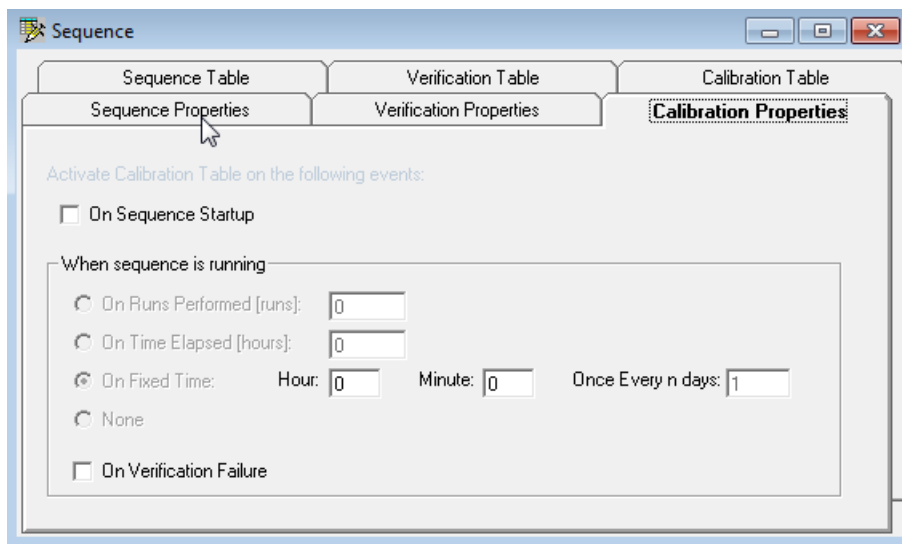

Figure 94. Sequence Calibration Properties
- In **Sequence** screen, **Figure 94**: